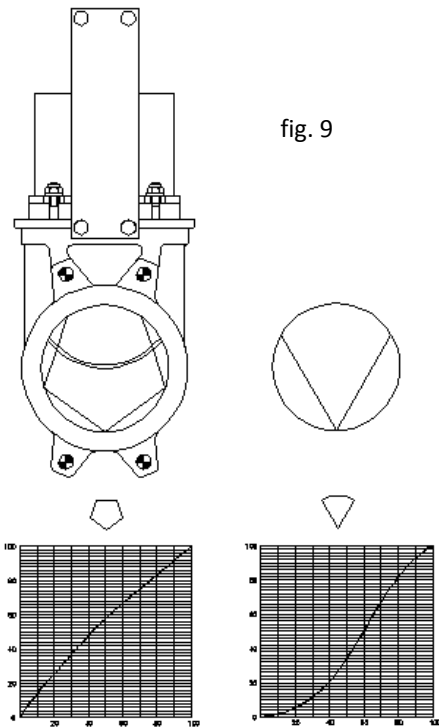

fig. 9
**Triangular (V-Notch) and pentagonal diaphragm with indication rule (Fig. 9)**